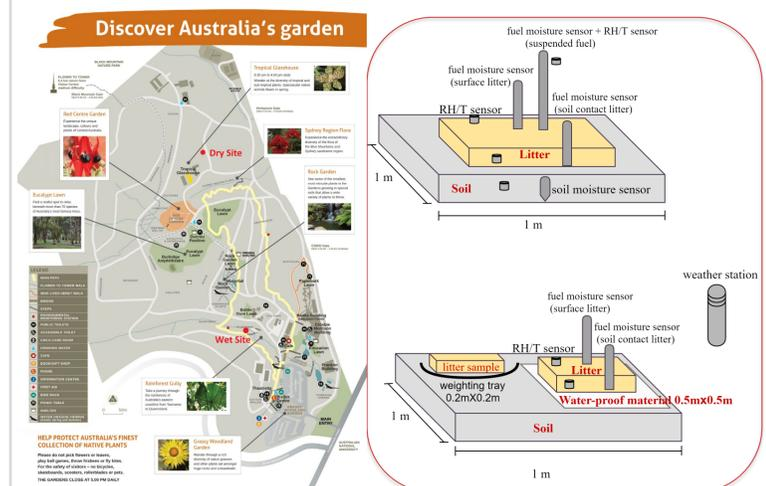

Fig. 1. The two experiment sites on the visitor map (left), and the parallel experiments and instruments at each site (right).
- 1 × 1 m control and treatment plots were selected at both a dry and a wet site for the experiment (Fig. 1).
- In each site there are two parallel experiments (Fig. 1) including: